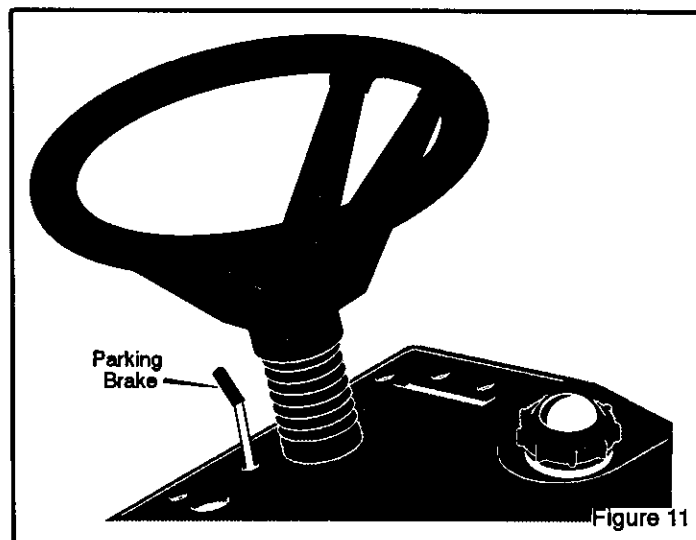

Figure 11
2. Lift the **parking brake lever** (Figure 11).